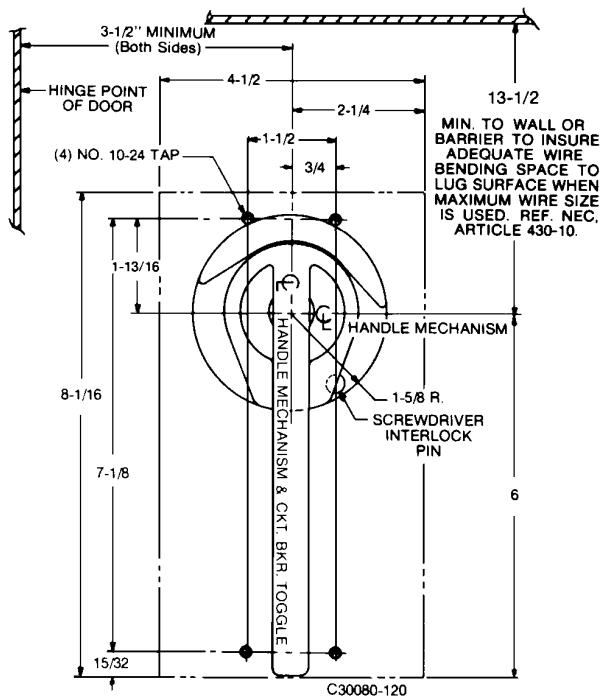

Figure 2 Panel Drilling
4. Determine location of circuit breaker on panel (see Figure 2). Mark location and drill four 11/64" diameter holes for the four #10-24 x 3-7/8" thread forming mounting screws (item 15).
- Place black adhesive ON-OFF mask (item 8) over the ON-OFF markings of the circuit breaker. This eliminates false circuit breaker status readings when the external operating mechanism is mounted.
If an authorized person requires access when the handle and circuit breaker are in the "ON" position, the screwdriver interlock pin can be defeated (see Figure 2 on page 3).